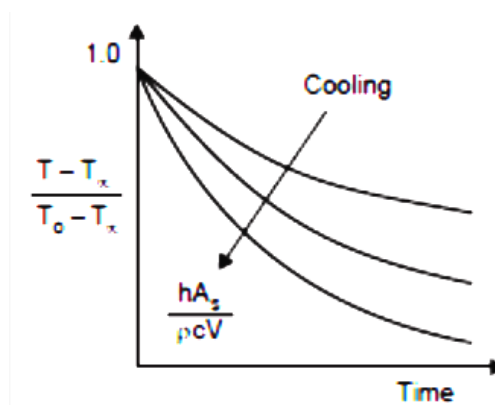

Fig. 4.3 Change in temperature of body with respect to time
- i The body temperature falls or rises exponentially with time and the rate depends on the parameter $(hA_s/\rho Vc)$. Theoretically the body takes infinite time to approach the temperature of surroundings and thus attain the steady state conditions. However the difference between T and T_a becomes extremely small after a short time and beyond that period the body temperature becomes practically equal to the ambient temperature. The change in temperature of a body with respect to time is shown in figure 4.3 for both cases (Heating and cooling)